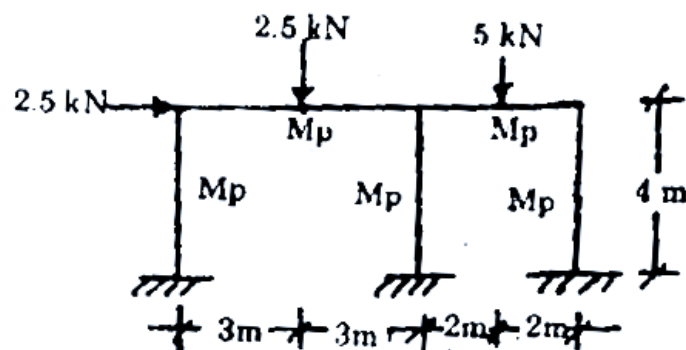

Figure 5
10. Determine the plastic moment for the two bay portal frame to carry working load as shown in Figure 5. Take load factor as 1.5 [12M]